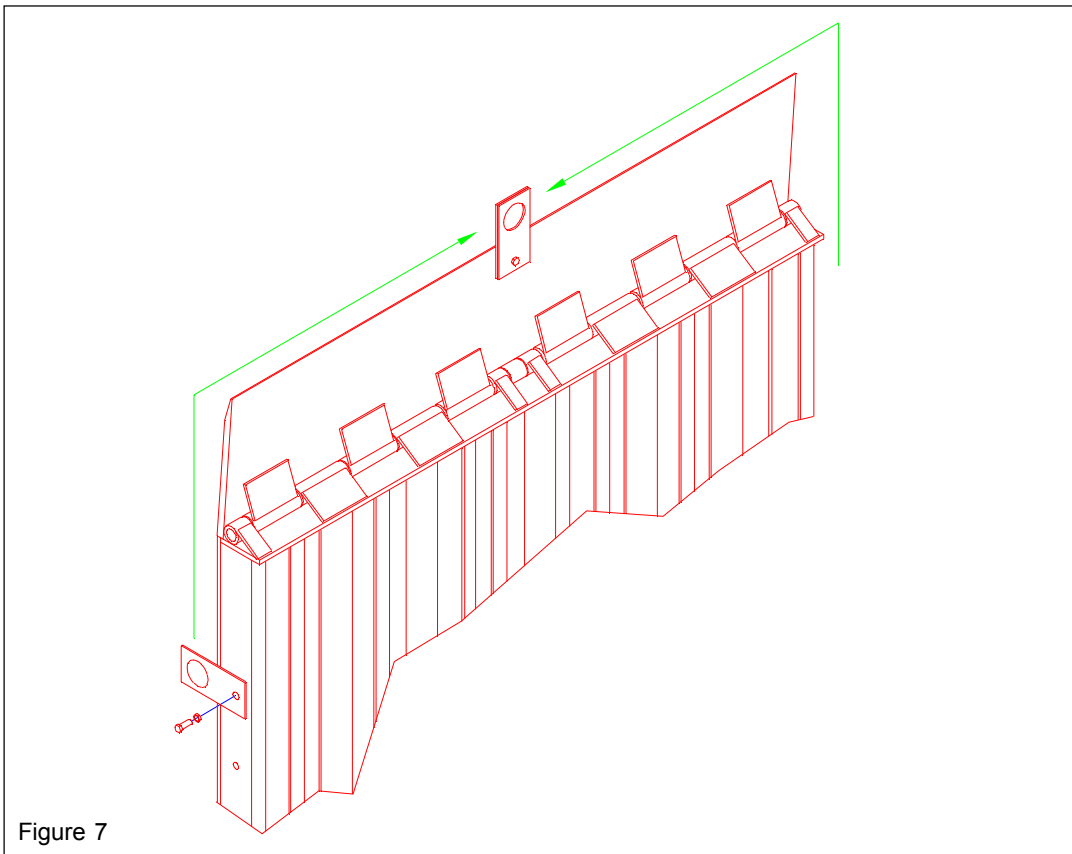

Figure 7
1. Poweramp railramps are shipped with lifting lugs attached to the outboard joists. If necessary, these lugs can be moved to the 3/4" hole provided in the lip for alternate installation (See Fig. 7).